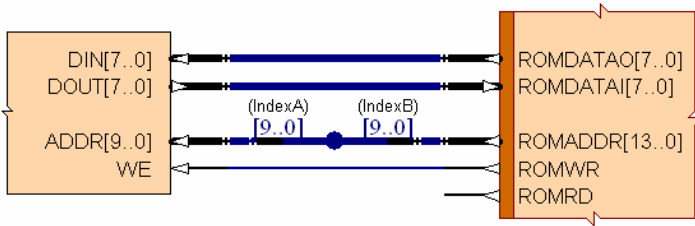

Figure 10. An example of using the JB bus joiner to achieve sub-set mapping.
- If both bus ranges are descending, match by same bus index (one range must lie within the other for valid connections). In Figure 10 the matching is: